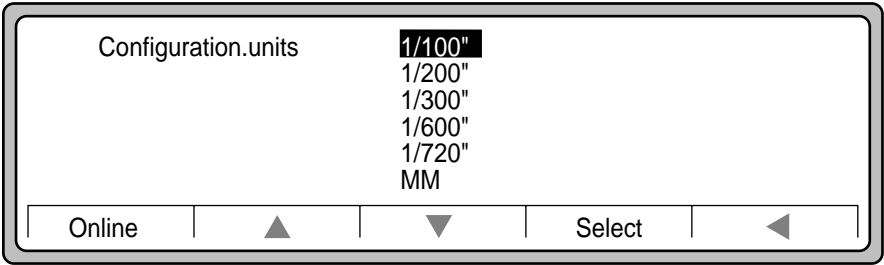

Figure 3-20 Highlighting 1/100"
11. In our example, 1/100" is highlighted (Figure 3-20).
- 12. Press Select. Figure 3-20 is displayed.